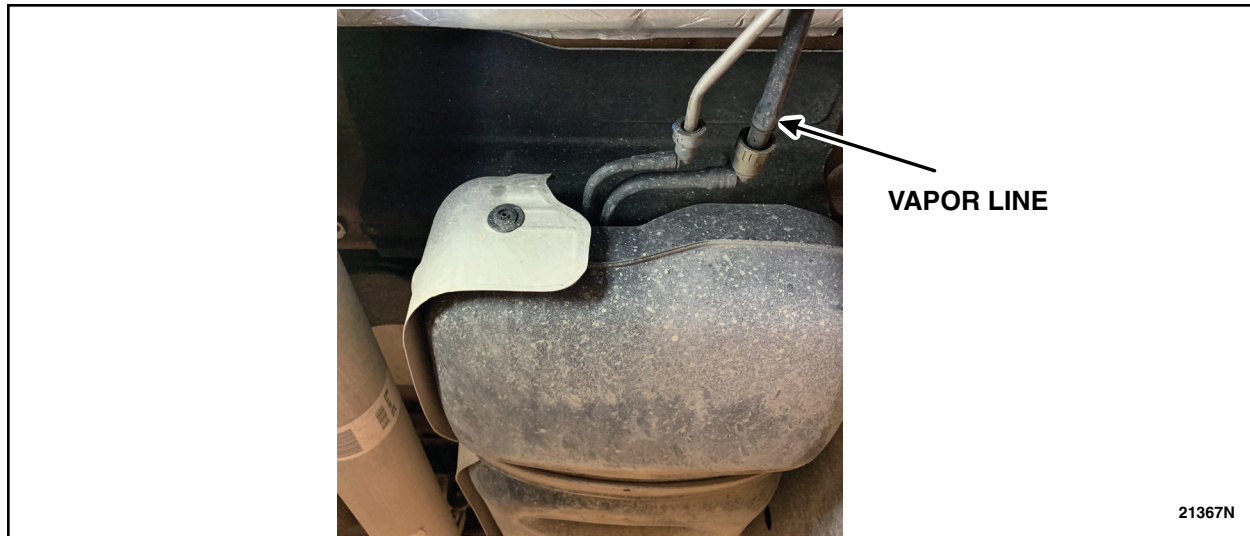

FIGURE 5
12. Inspect the vapor line for any damage caused by the driver side insulator. Is there any damage to the line? See Figures 5 through 7.